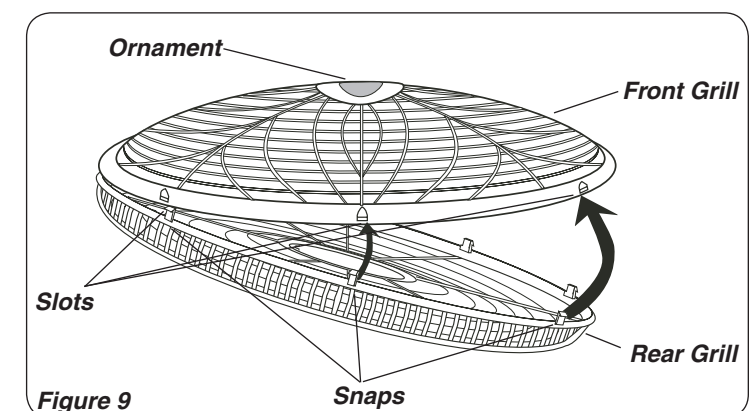

Figure 9
5. With fan head in upright position, align **Ornament** of **Front Grill** so it is horizontal and right side up. Starting with the top of the grill and working down, insert **Snap**s on **Rear Grill** through **Slots** in **Front Grill**. (**Figure 9**)